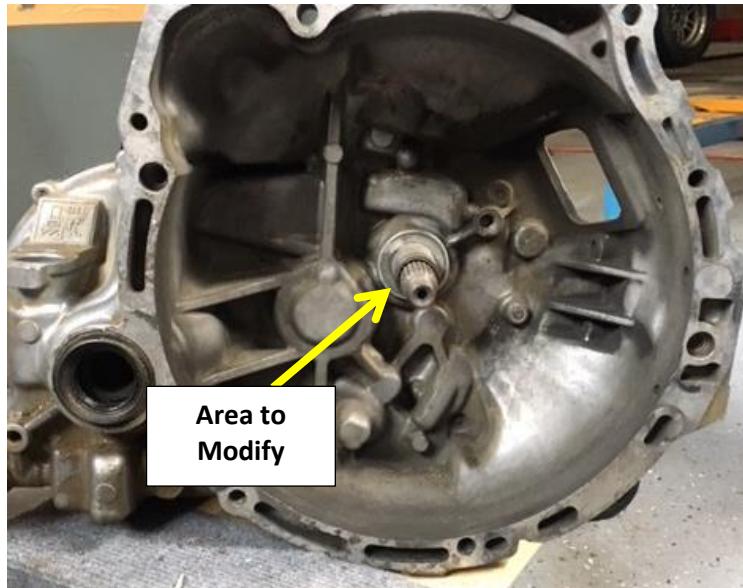

Figure 12 – Transaxle Mounting Hole Modification
5. Locate the base of the T/O bearing guide tube and make sure it is smooth and burr free. (See Figure 12) Use emery cloth or similar to remove any fine burs or nicks.